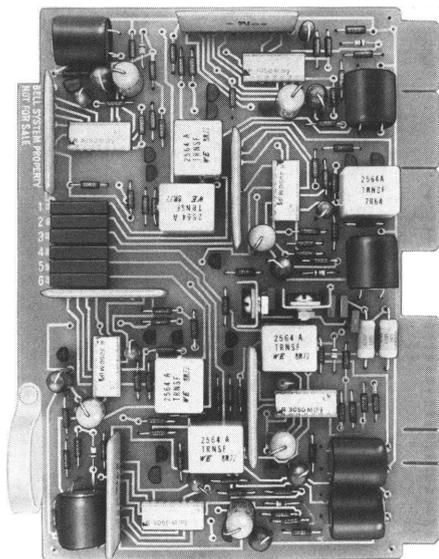

Fig. 7—75A Control Unit
- Unit, Control, 75A (one per six 102B IUs in 604B or 604C panel, Fig. 7).